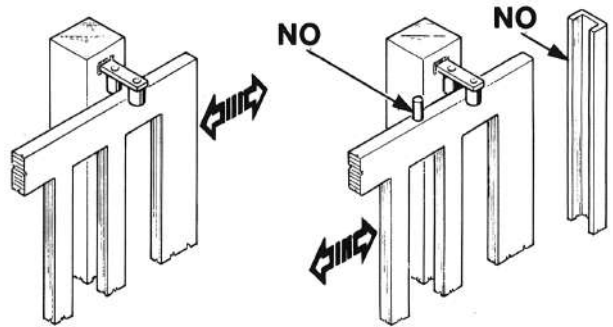

FIG. 3
- The gate columns shall have anti-derailment guides on their top (Fig. 3),
Note: Eliminate the mechanical stops of the kind described by Fig. 3.